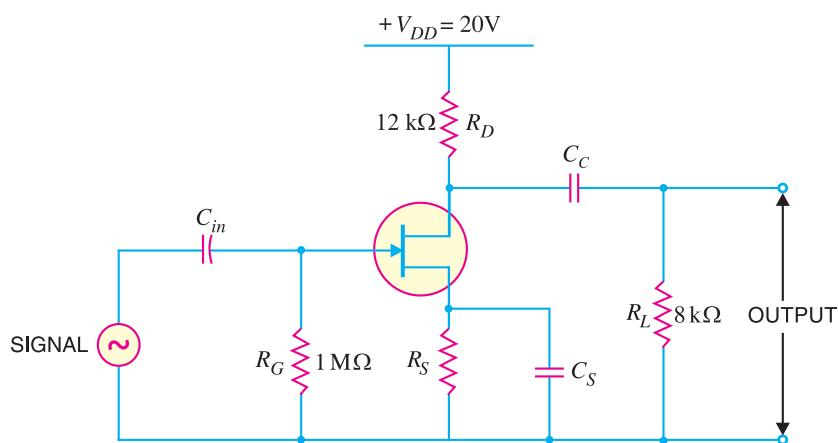

Fig. 19.37
**Example 19.24.** The JFET in the amplifier of Fig. 19.37 has a transconductance  $g_m = 1 \text{ mA/V}$ . If the source resistance  $R_S$  is very small as compared to  $R_G$ , find the voltage gain of the amplifier.